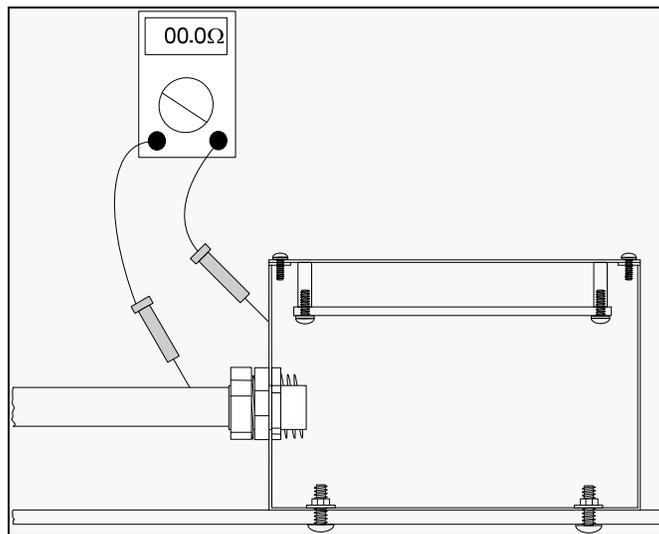

Figure 20 Continuity Testing - Conduit to Enclosure
Step 1: Measure the resistance from the conduit to the enclosure as shown in **Figure 20** below.